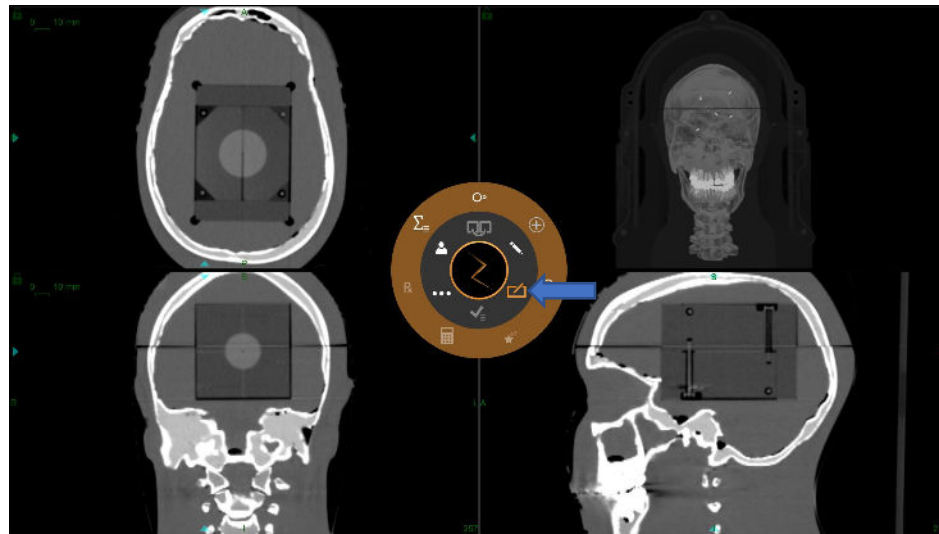

Figure 7-2 Plan icon.
1. Click on the **Plan** icon to add an isocenter (see Figure 7-2).